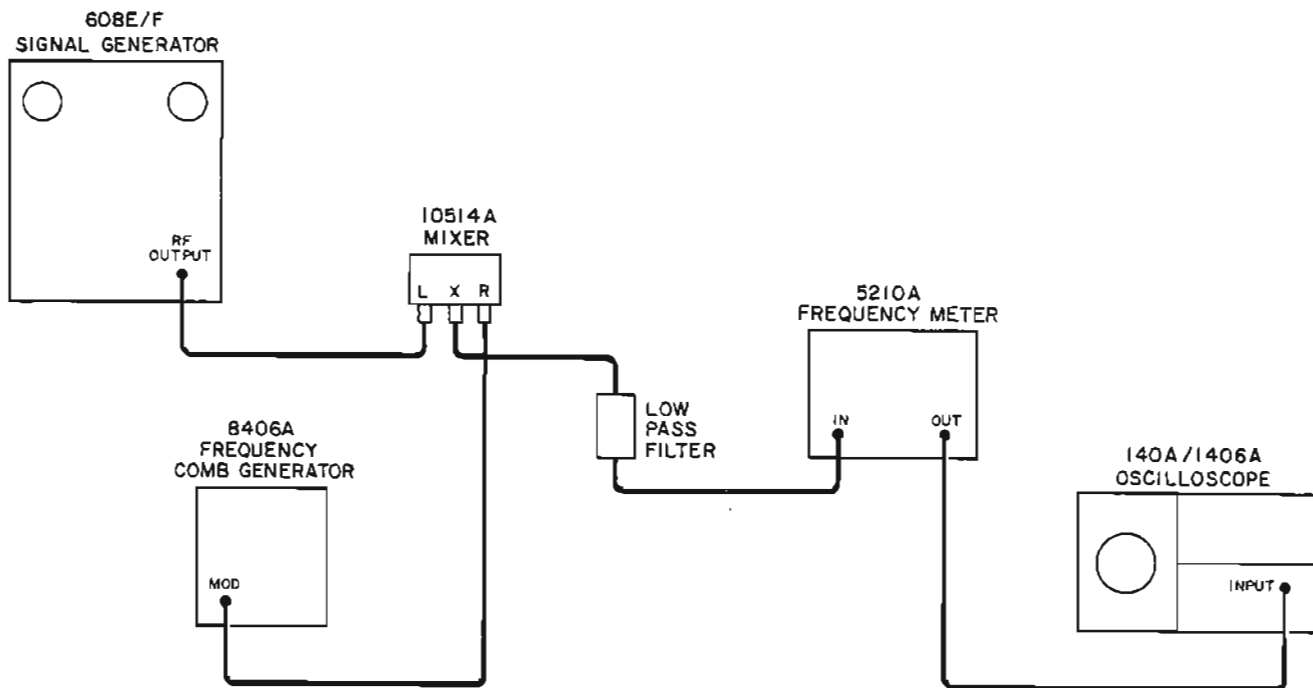

Figure 5-4. Residual and Incidental FM Test Setup
- a. Connect signal generator in test setup illustrated in Figure 5-4.
a. Connect signal generator in test setup illustrated in Figure 5-4.